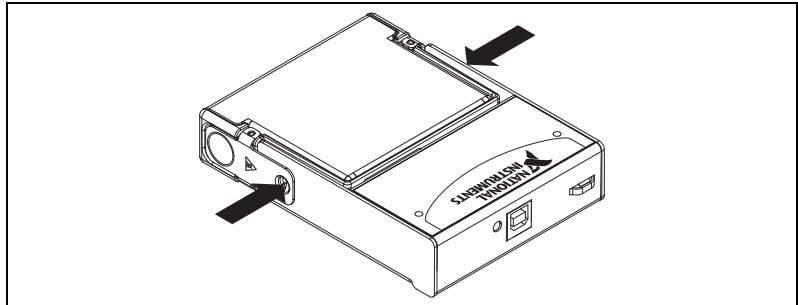

Figure 6. Locking Module into Place
5. Press firmly on the connector side of the NI 9213 module until the latches lock the module into place, as shown in Figure 6.